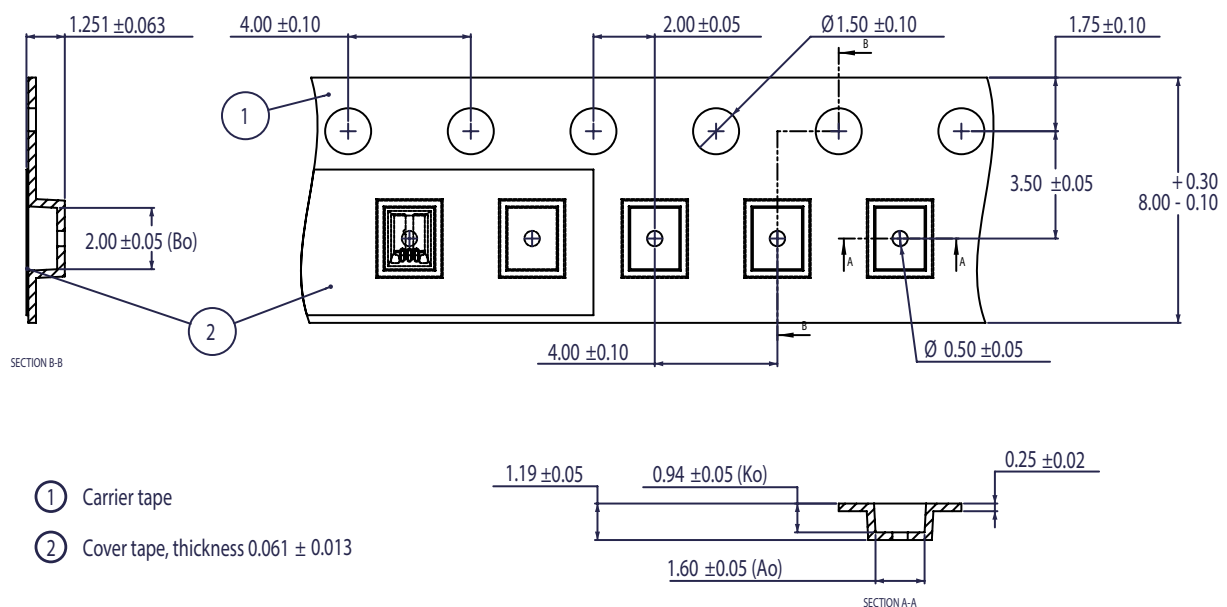

Figure 14a. Pocket Tape dimensions for LUXEON Rubix Red.
Notes for Figure 14a:
- Notes for Figure 14a: